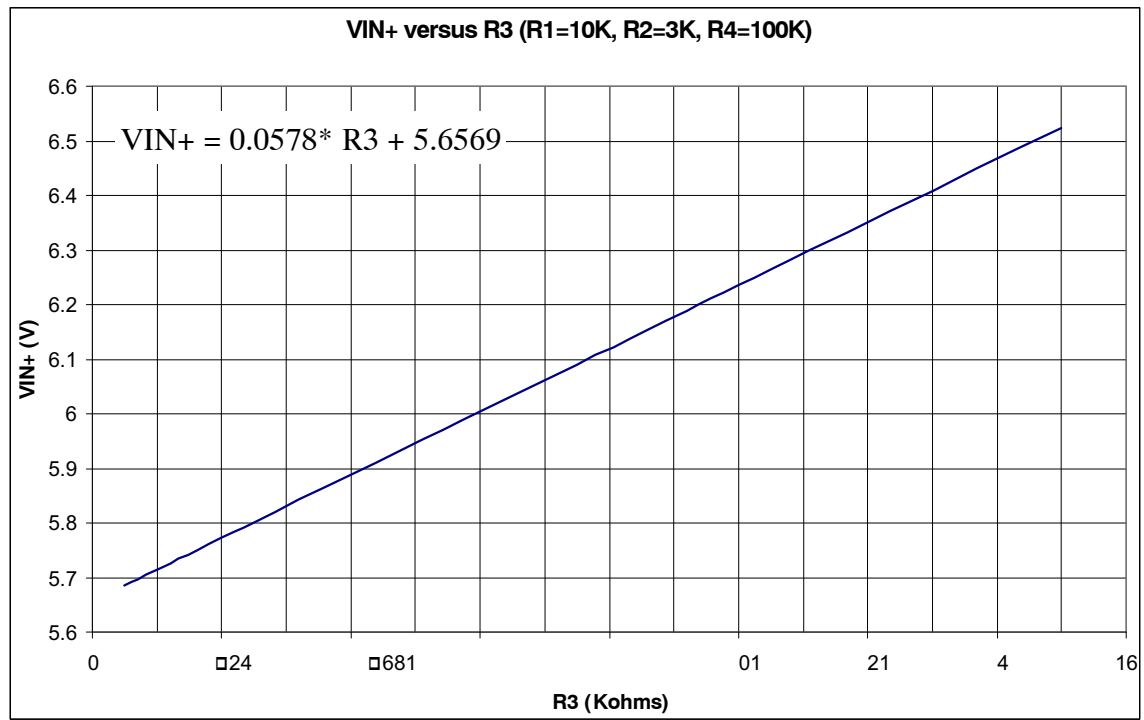
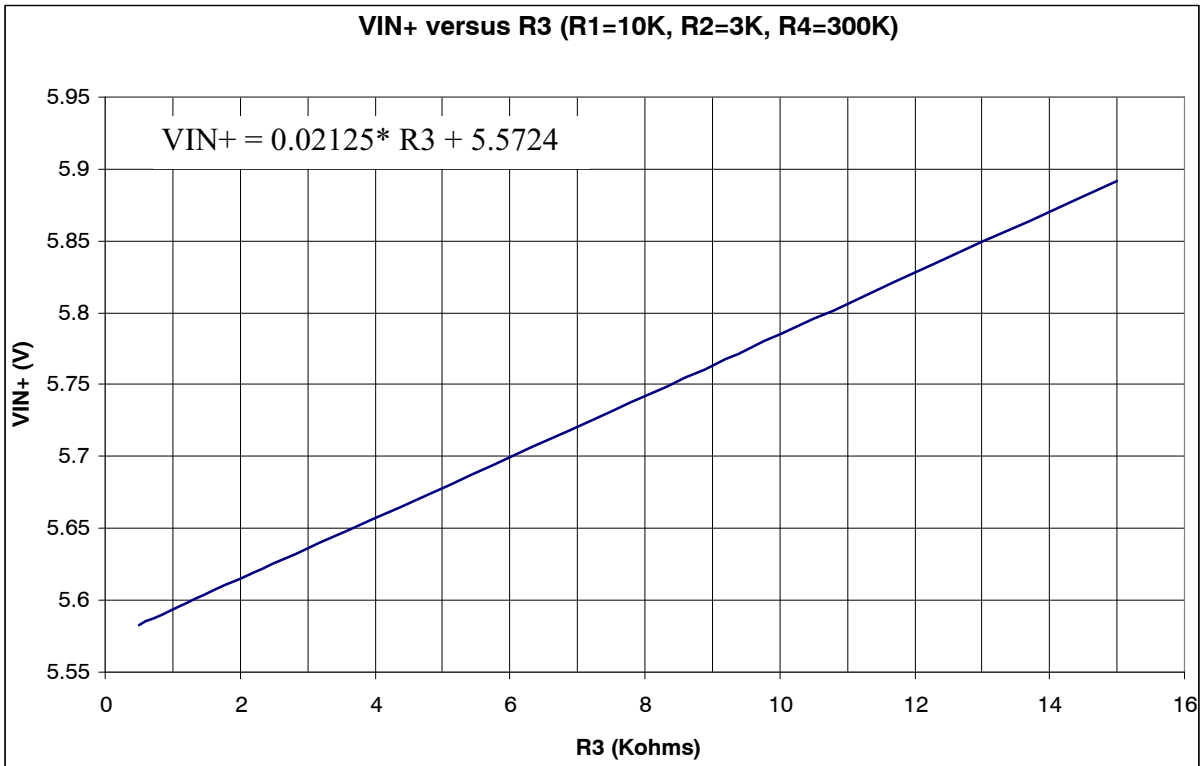
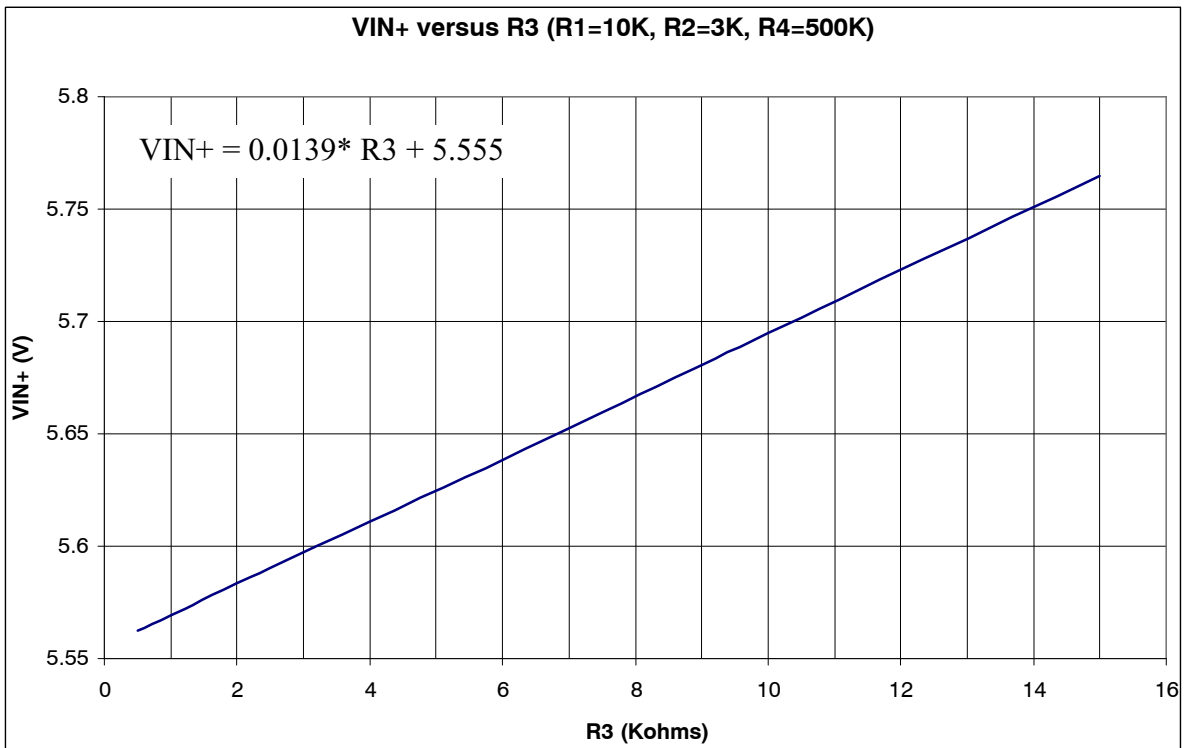

Figure 5. Chart for  $V_{IN+}$  versus R3
Figure 11. Chart for  $V_{IN+}$  versus R3 (R4 = 300k)
Figure 13. Chart for  $V_{IN+}$  versus R3 (R4 = 500k)
4. From Figure 5 (if  $R_4 = 300k$ , use Figure 11. If  $R_4 = 500k$  use Figure 13) chart with make use of the equation provided, evaluate  $V_{IN+}'$  based on the  $R_3$  which is defined at step 3, say  $V_{IN+}'$ . It should be noted that the  $V_{IN+}'$  value here is NOT the one that will be used, it is just for intermediate value to proceed the calculation.
**Step 4:** From the Figure 5 chart with make use of equation, we have